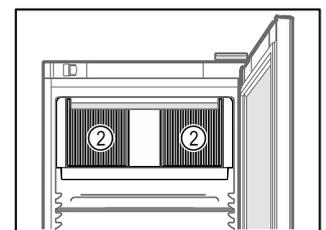

Fig. 40
- ❑ Ventilation slots *Fig. 40 (2)* for recirculation fan in the interior must be kept clear.